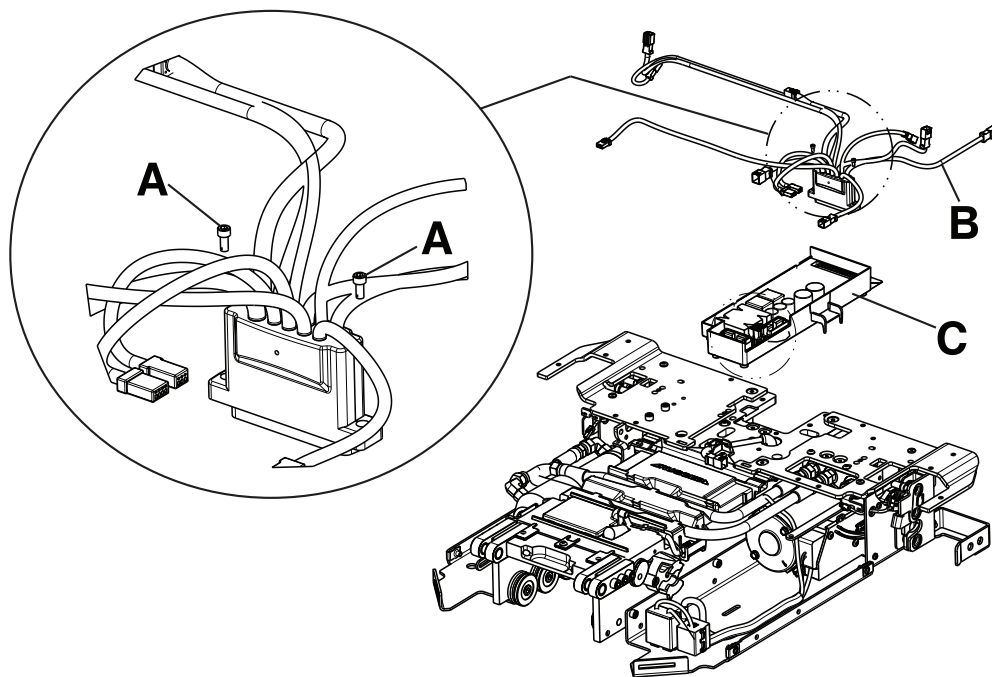

Figure 17 – Control board assembly
2. Using a 3/32" hex wrench, loosen (do not remove) the two screws (A) that secure the main cable assembly (B) to the control board assembly (Figure 17).
3. Unplug all of the other cables from the control board assembly (C) and then remove the control board assembly (Figure 17). Discard the control board assembly.